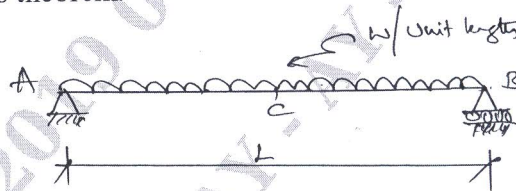

Fig.Q5(b)
b. Determine the deflection at the center of the loaded simply supported beam as shown in Fig.Q5(b) by Castiglion's theorem.